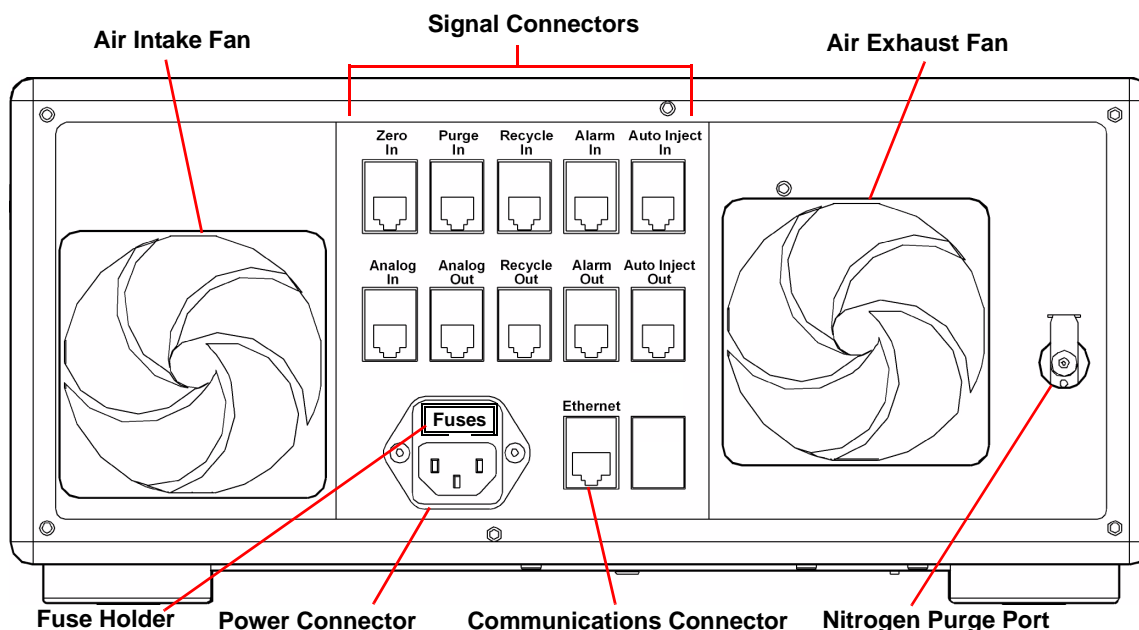

Figure 2-2: Rear panel
The rear panel, see Figure 2-2, provides access for power, signal connections, the cooling fan, air filter, the exhaust fan, and a nitrogen purge port.
1. **Connect the power cable.** The power outlet is located on the Optilab T-rEX rear panel (see Figure 2-2). The power supply is universal, for immediate use with 100–120 V or 220–240 V power at 50-60 Hz. (See also “Power and Signal Connections” on page 4-2.)